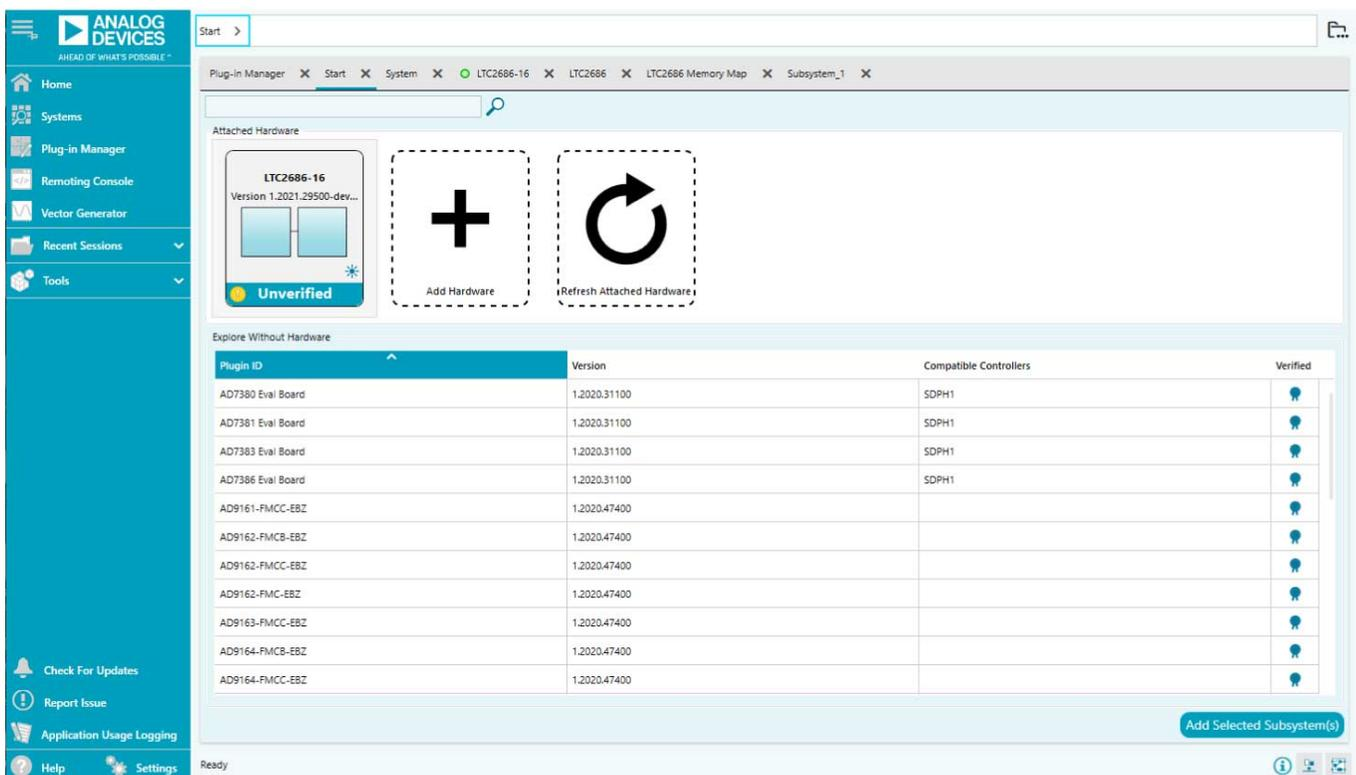
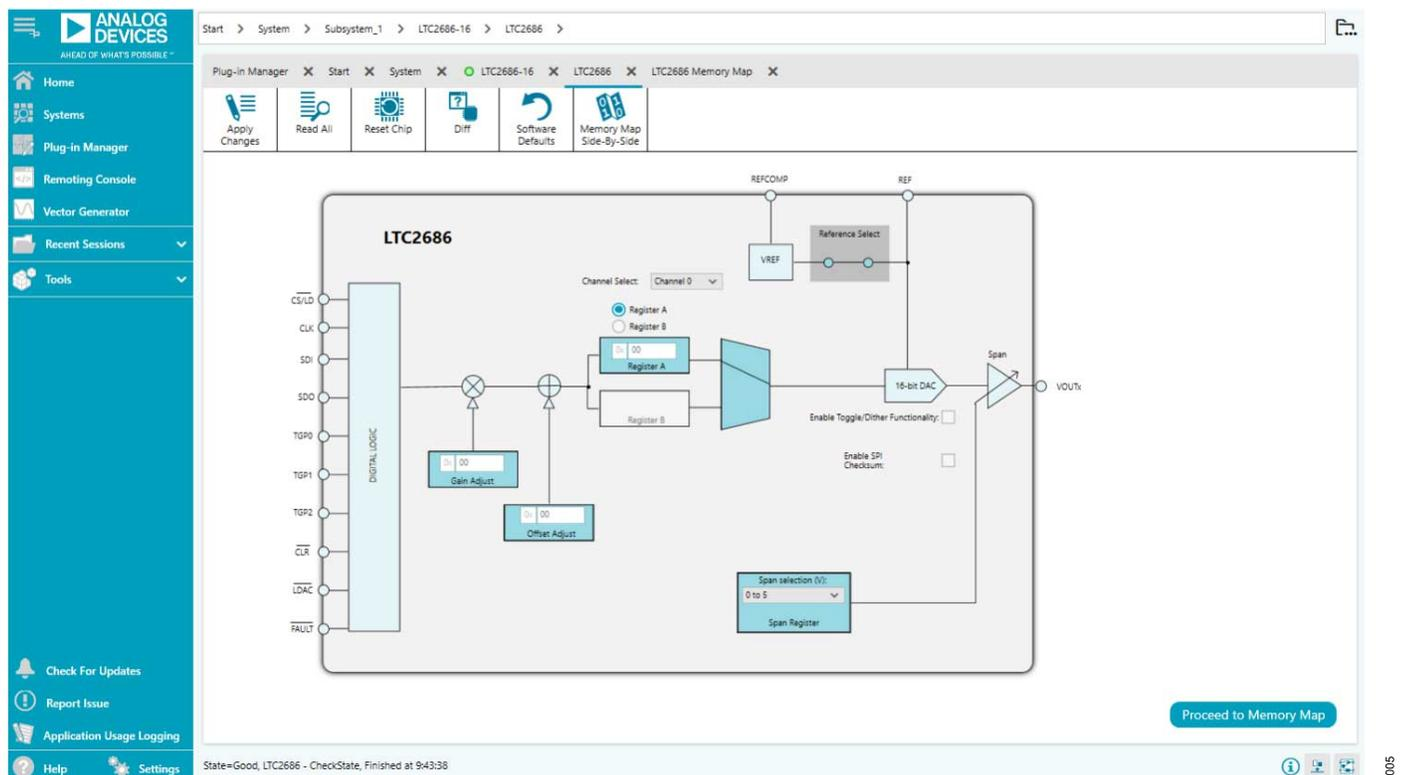
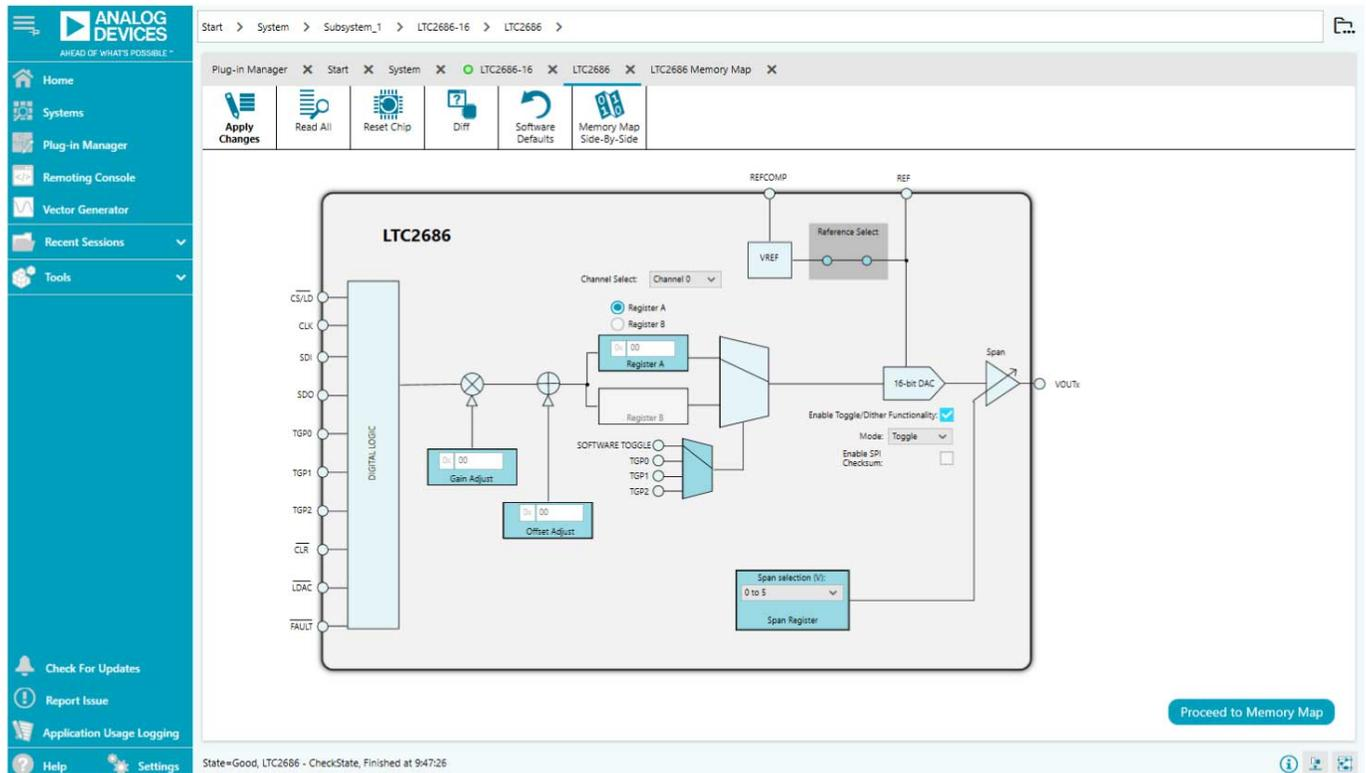
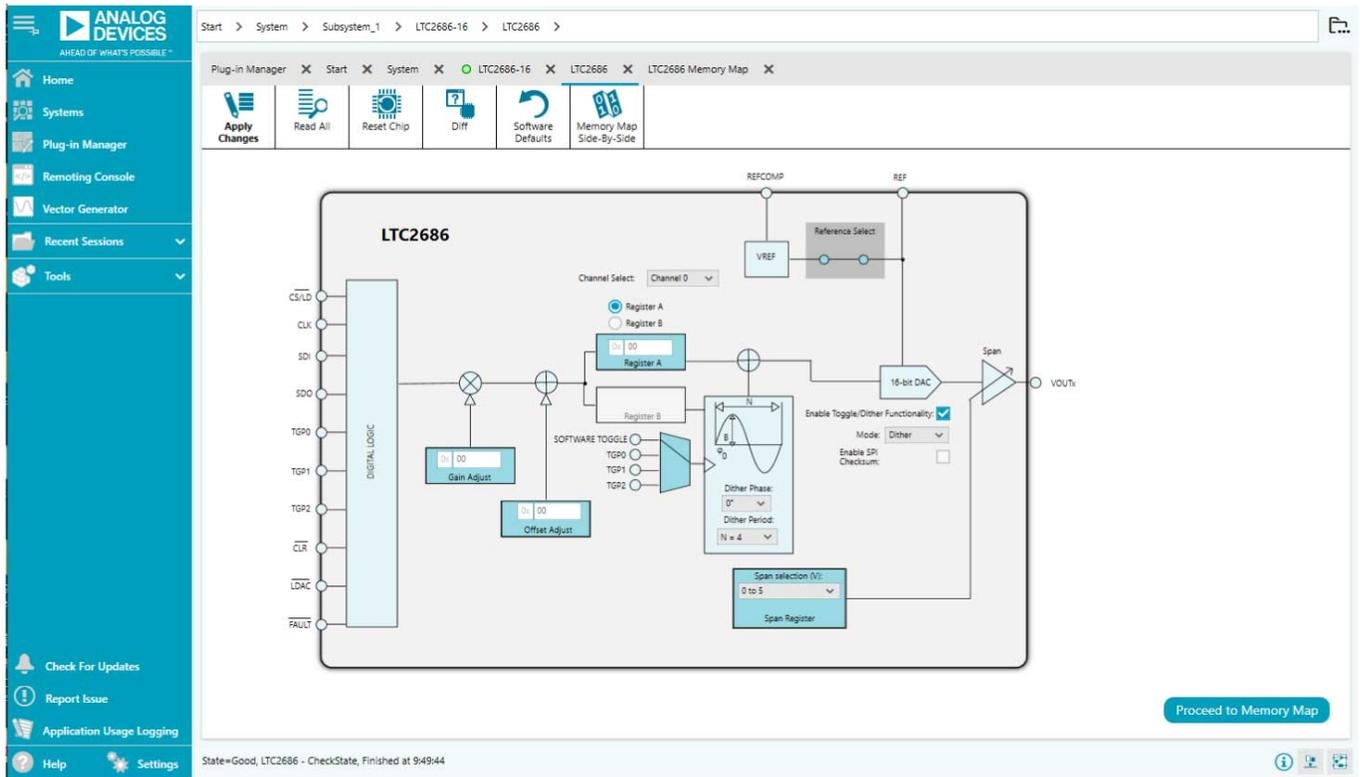

Figure 4. Interface Window
Figure 5. ACE Evaluation Software Main Window
Figure 6. Toggle View
Figure 7. Dither View
To start the ACE evaluation software, from the **Start** menu, click **Analog Devices > ACE**. The software window opens (see Figure 4) until the software recognizes the DC2904A-B. When the software recognizes the DC2904A-B, the main software window in Figure 5 opens.
In the main ACE evaluation software window (see Figure 5), each channel can be controlled. Various settings for the LTC2686 are available in this window, allowing the user to configure the output range, output voltage, gain adjustment, offset adjustment, toggle options, and dither options of each channel.
The DC2904A-B uses the LTC2686 internal reference to set the full-scale range. To apply an external reference, click the box labeled **Reference Select** (see Figure 5).
2. Select the desired range for the selected channel using the **Span selection** dropdown box (see Figure 5).
2. Type the desired value into the **Register A** text box (see Figure 5).
2. Type the desired hexadecimal value into the **Register A** (or **Register B**) text box (see Figure 5).
2. Type the desired hexadecimal offset or gain adjust value into the **Offset Adjust** or **Gain Adjust** text boxes (see Figure 5).
Toggle mode can be enabled by selecting the **Enable Toggle/Dither Functionality** check box (see Figure 5). This check box enables the toggle view shown in Figure 6. The toggle signal can then be applied to the selected pin or supplied internally.
After enabling the toggle view shown in Figure 6 as described in the Enabling Toggle Mode section, select the dither mode from the Mode dropdown box to bring up the dither options (see Figure 7).
To access the **LTC2686-16 Memory Map** view, click the **Proceed to Memory Map** button from the software main window (see Figure 5).